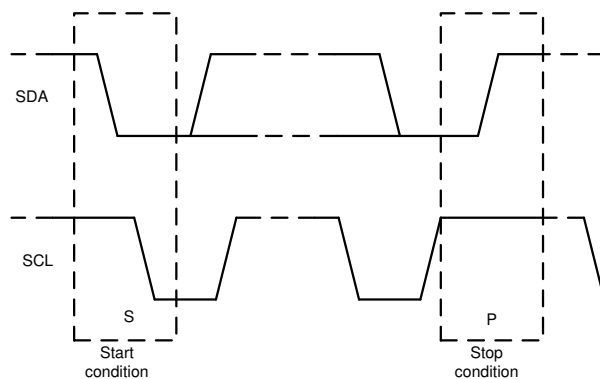

图 7-12. Start and Stop Conditions
1. The controller initiates data transfer by generating a start condition. 图 7-12 shows that the start condition is when a high-to-low transition occurs on the SDA line while SCL is high. All I2C-compatible devices recognize a start condition.
4. 图 7-12 shows that to signal the end of the data transfer, the controller generates a stop condition by pulling the SDA line from low-to-high while the SCL line is high. This action releases the bus and stops the communication link with the addressed target. All I2C-compatible devices recognize the stop condition. Upon receipt of a stop condition, the bus is released, and all target devices then wait for a start condition followed by a matching address.